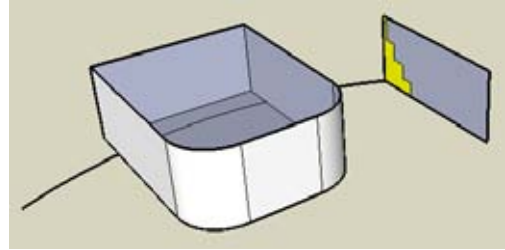

Figure 4-65
- Copy one of the side faces of the box to the end of the arc. On this face, draw a cross-section for steps (Figure 4-65).